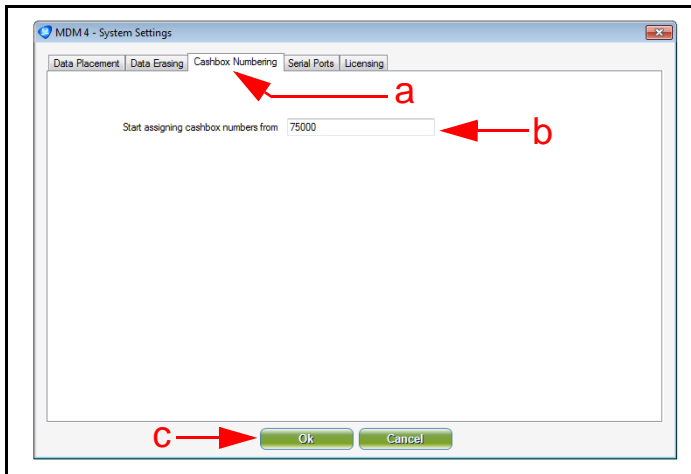

Figure 16 Cash Box Start Number Entry Screen
The 'System Settings' Screen will appear (Figure 16).
2. Click on the 'Cashbox Numbering' tab (Figure 16 a).
3. In the 'Start assigning cashbox numbers from' field (Figure 16 b), enter the Number for the MDM4 Program to use as the Cash Box Starting Point Number.
4. Once a starting Number has been entered, click on the 'OK' Screen Button (Figure 16 c) to set the value and return to the MDM4 Main Screen.